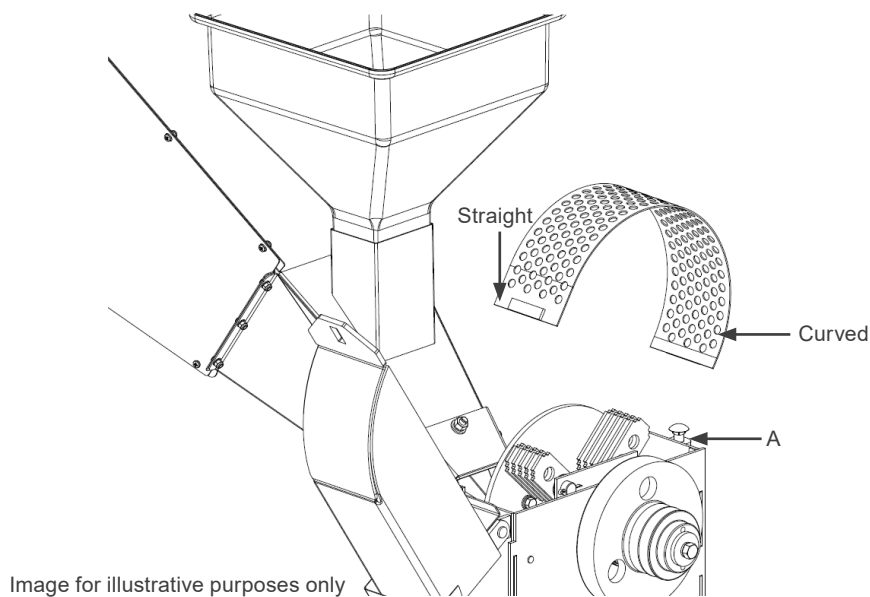
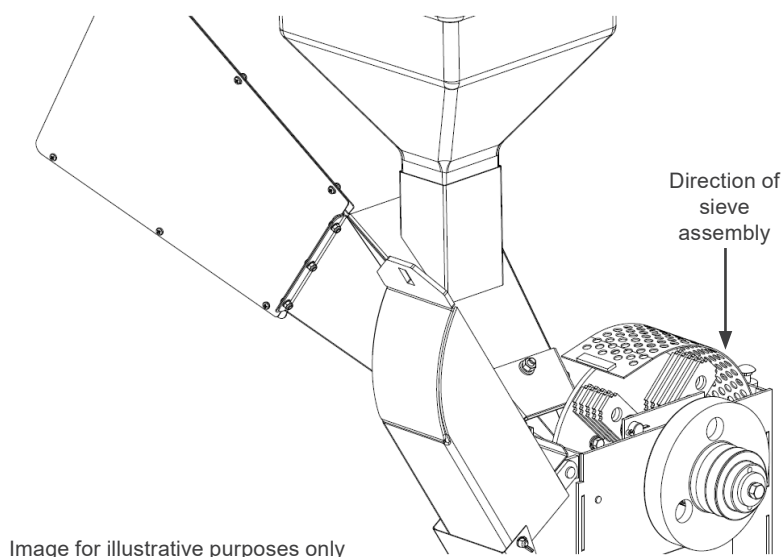

Figure 7.3: Assembly position
Figure 7.4: Assembly direction
- To assemble correctly, start with the curved side of the screen, and mount it on the crusher body in position (a) shown in Figure 7.3 on page 134) and Figure 7.4 on page 135.